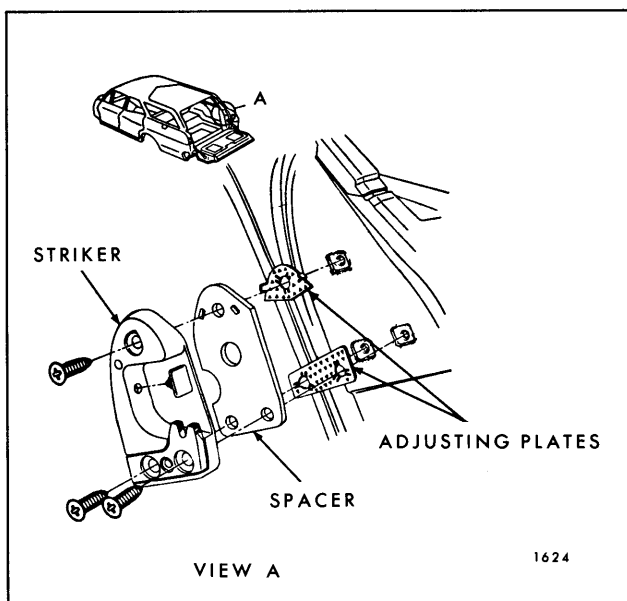

Fig. 9-18—Tail Gate Lock Striker Assembly - "A" and "B" Body Styles
3. To install, align striker and components within pencil marks and install attaching screws (See Fig. 9-18).